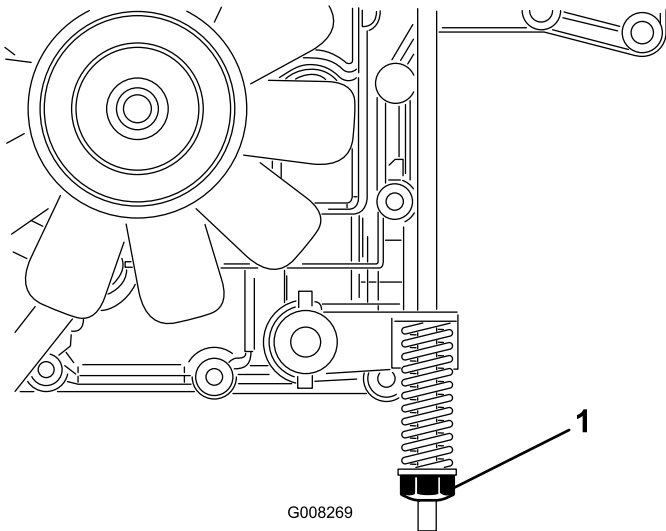

Figure 38
The brake is located on the right side of the rear axle, inside the rear tire (Figure 38).
3. Turn the brake adjusting nut clockwise until you cannot push the machine (Figure 38).